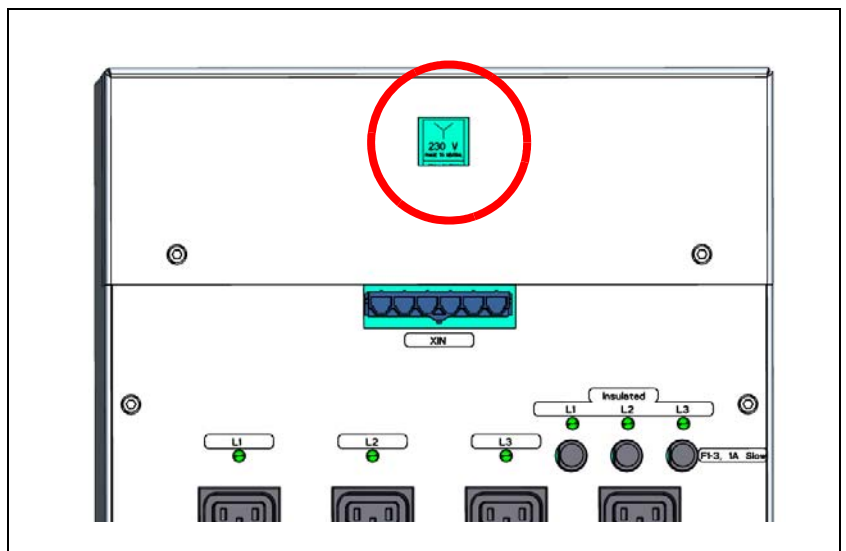

Figure 2-22. Inspection opening.
13. Double check voltage configuration by reading in the inspection opening in the cover. See figure 2-22